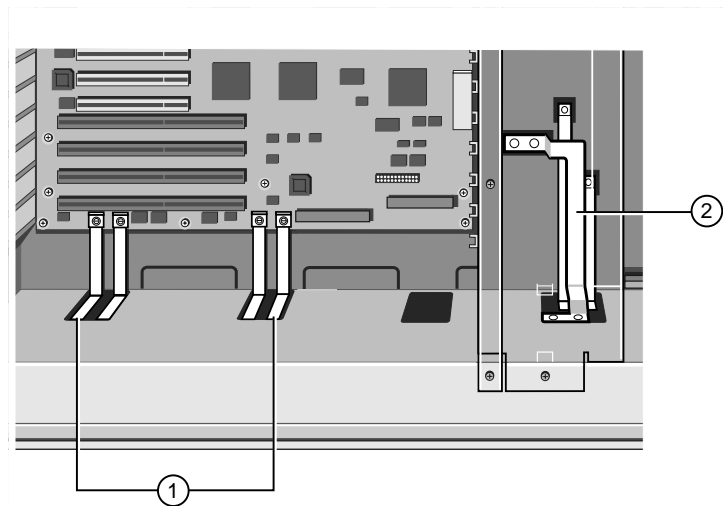

Figure 10-3 Busbars
7. Attach the set of 3 busbars to the HDD power board as shown in *Figure 10-3*. Then attach the two pairs of busbars to the motherboard.